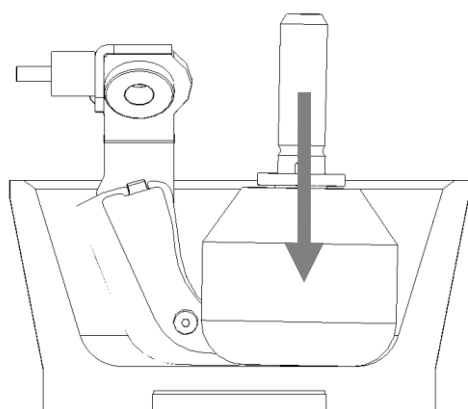

Fig.7
- This increases the pressing force downwards **Fig.7**